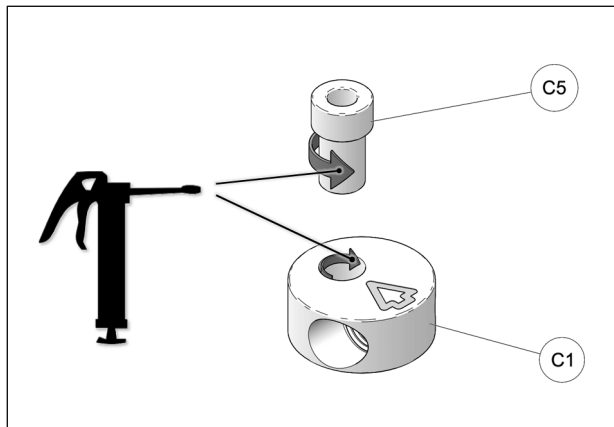

Fig. 24
12. Apply grease evenly all around step spacer bushing (C5) and in hole of aluminum disk (C1) when assembling these parts together. See Fig. 24